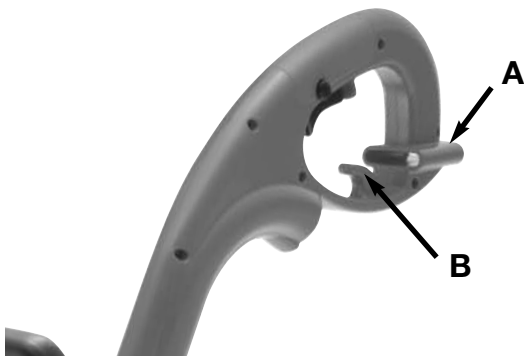

Fig. 1
3. Place the loop into the slot (A) under the rear handle and lock into place on the cord retainer (B) as shown in Figure 1.